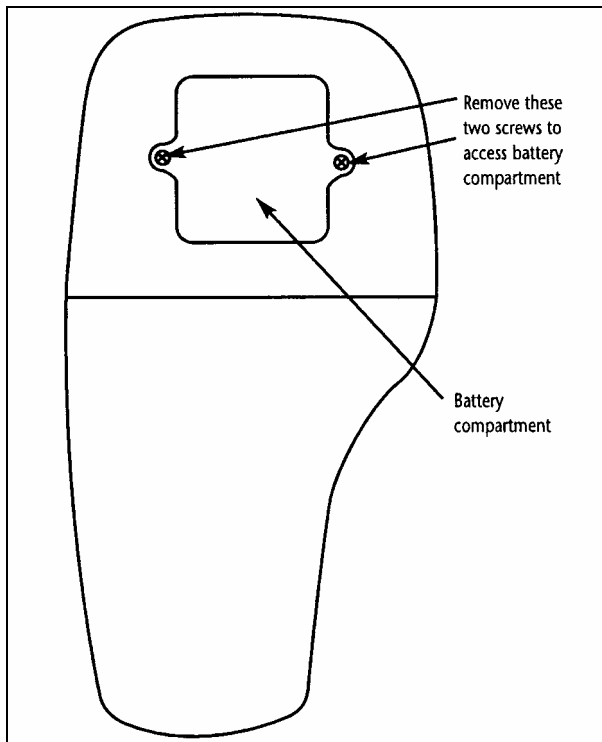

Figure 3: Back panel of meter showing meter compartment
1. Use a Philips screwdriver to remove the two screws holding the battery cover. See Figure 3 below.